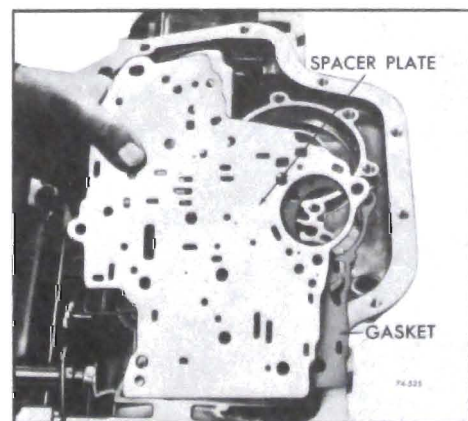

Figure 76-525
7. Remove valve body assembly, spacer plate, and gasket. See Figure 76-525.